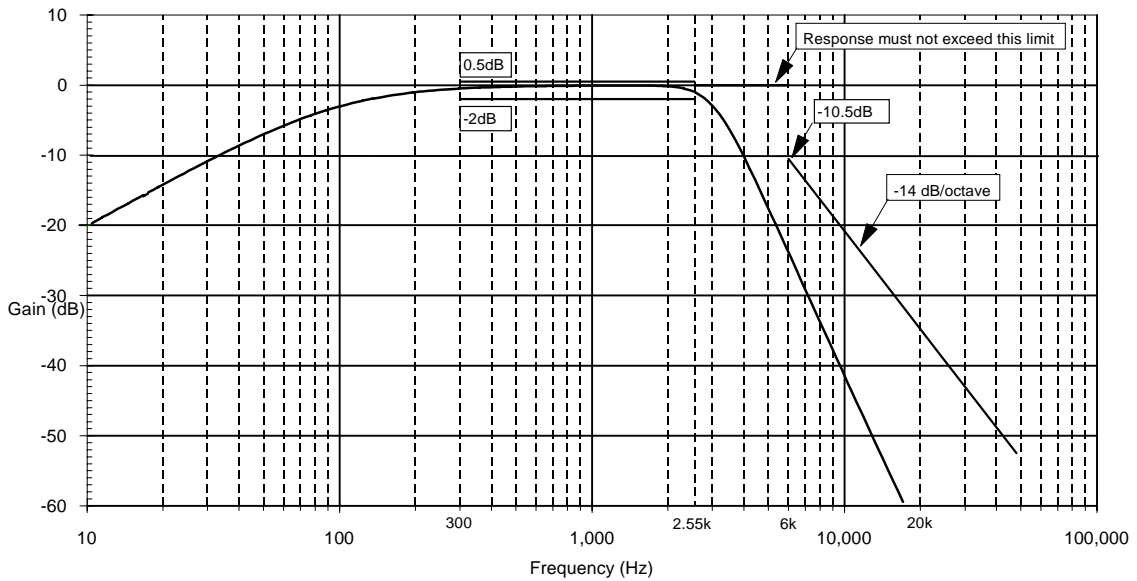
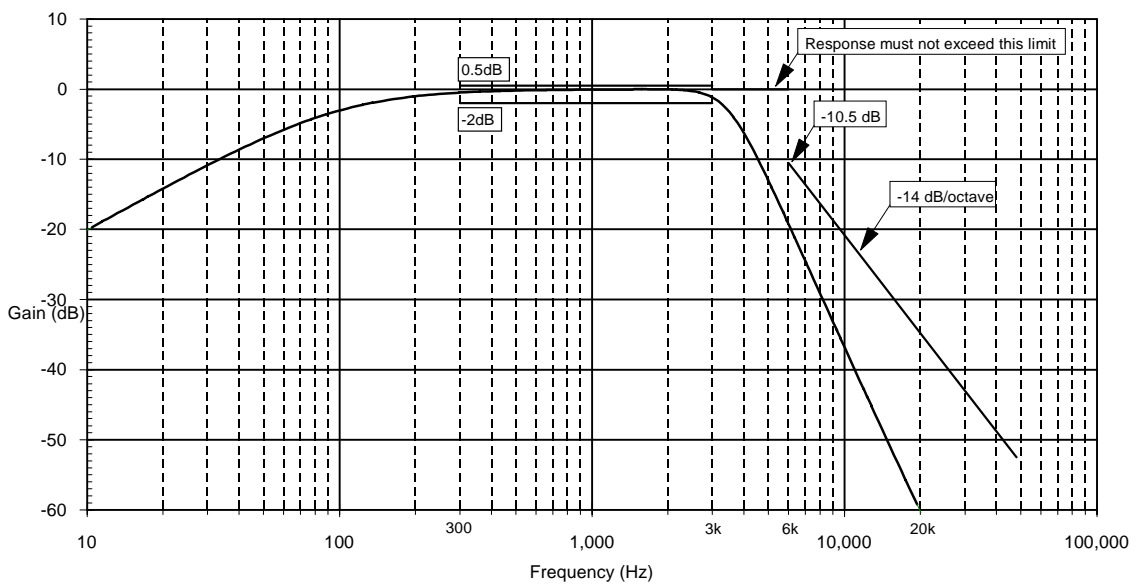

Figure 12: Overall Audio Frequency Response for 12.5kHz Channel Separation
Figure 13: Overall Audio Frequency Response for 20kHz/25kHz Channel Separation
5. Between MIC or AMP1 inputs to Modulator and Audio outputs, see Figure 12 and Figure 13.